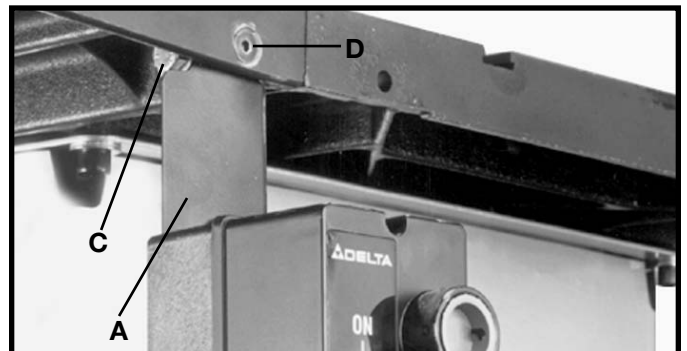

Fig. 10B
3. Attach the side of switch bracket (A) Fig. 10B, to the inside of extension table at the front of the saw using the 7/16-20x1-1/4" screw and flat washer (C). Tighten screws (C) and (D).